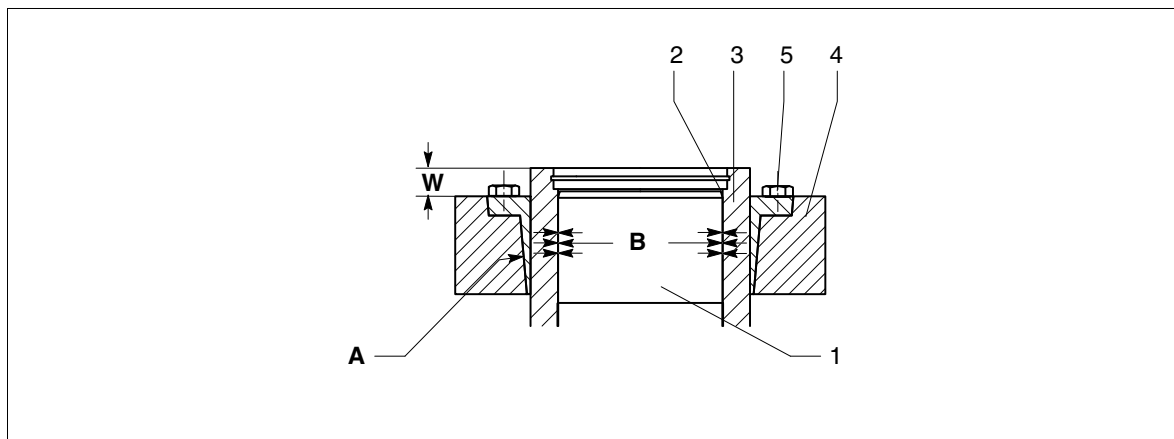

Fig. 60: Fitting the shrink disk
- The conical surfaces of the inner and outer rings (3 and 4, see figure 60) must be free of grease and oil.
- A thin layer of grease must be applied evenly to the conical surfaces of the inner and outer rings (3 and 4, see figure 60).
- Provide the tensioning bolts (5, see figure 60) on the contact surface and on the thread with lubricant.